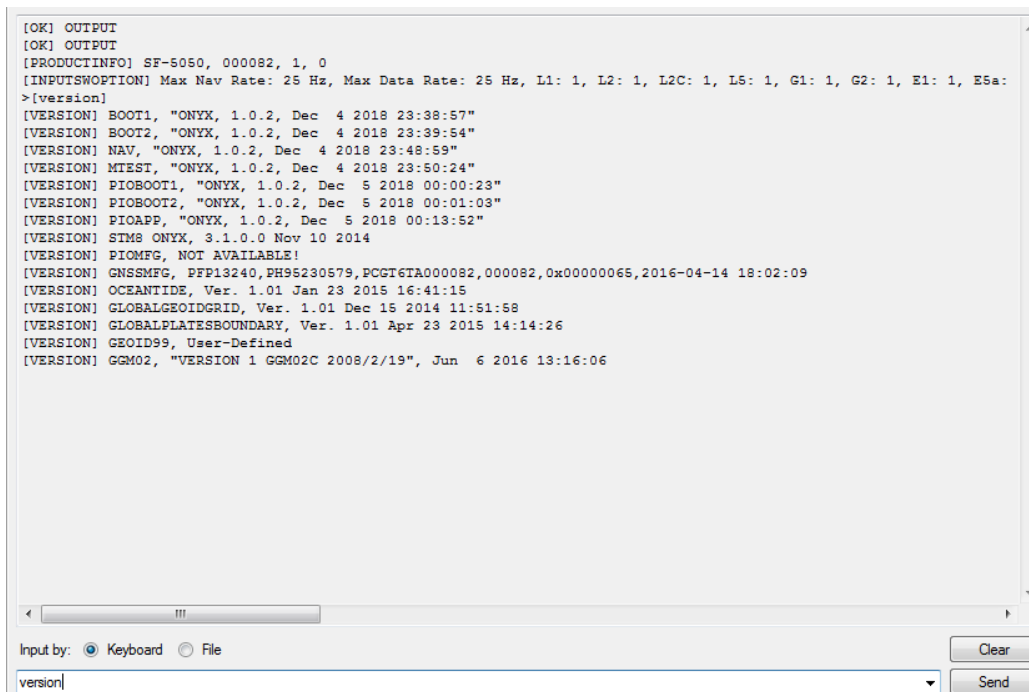

Figure 17: Input Terminal
Click *Input Terminal* on the menu to open the command and control window (see Figure 17).
2. The receiver will return a list of loaded files similar to Figure 17. Verify these against the firmware provided on the USB drive provided with the product. If the USB drive has newer files, load those files following the procedure which follows.
The firmware is identified by version number. For example, the NAV firmware displayed in Figure 17 is version 1.0.2. Firmware ensembles are always referenced to the Navigation Firmware Number.
5. Compare the current NAV Firmware version in the Firmware folder with the installed version displayed in the *Firmware Info* window (see Figure 17).